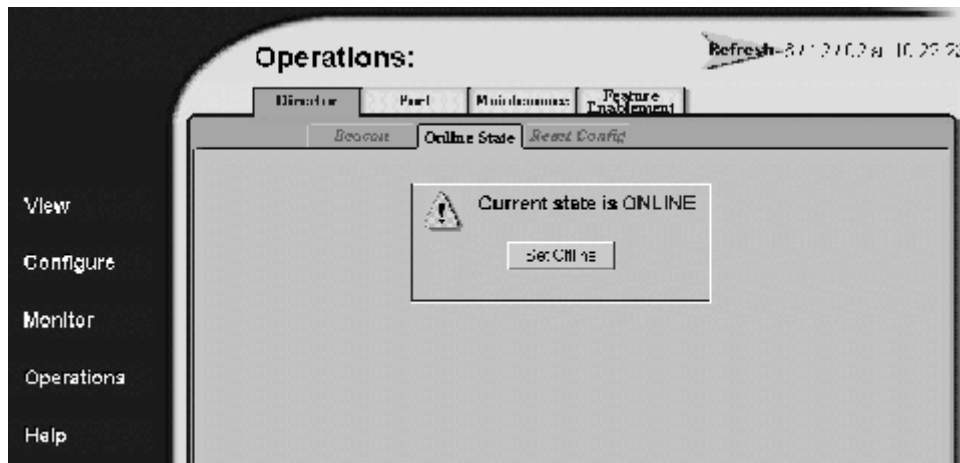

Figure 3–8: Current State page
2. At the **Operations** page, click the **Online State** tab. The **Current State** page displays, as shown in Figure 3–6.